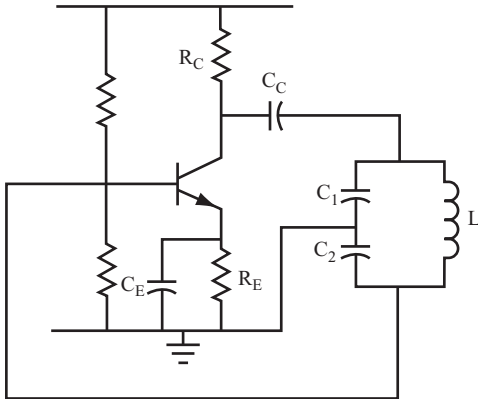

FIGURE 9.16
**22** Figure 9.16 shows a Colpitts oscillator circuit that uses a different method for making feedback connections between the parallel LC circuit and the transistor.
**23** In the circuit shown in Figure 9.16, capacitor  $C_E$  should have a reactance of less than 160 ohms at the oscillation frequency. If the emitter resistor  $R_E$  is smaller in value than 1.6 k $\Omega$ , then  $C_E$  should have a reactance that is less than  $R_E/10$  at the oscillation frequency.